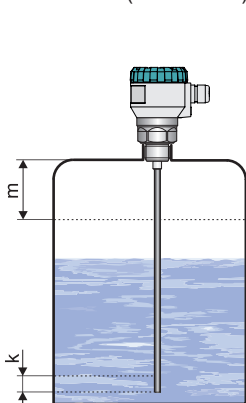

Fig. 3: Level meter dead zone with rod electrode
- In connection with the measurement principle, it is not possible to evaluate electromagnetic waves deflected in the area directly below the level meter and also at the end of the electrode (see fig. 3 and 4). These zones determine either the minimum distance between the level meter and the highest possible level (parameter "m"), or the minimum distance at the end of the electrode (parameter "k"). **The level meter must be installed so that when the tank is filled to the maximum and minimum possible level, the surface level is not in the dead zones.** In the event that the measured level enters the dead zone, i.e. goes beyond the measuring range, the level meter will enter failure mode, see paragraph Measuring range.